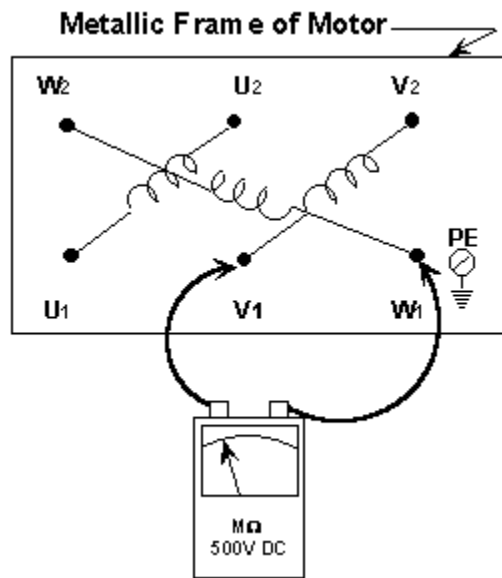

Figure 28
Step3: Insulation Resistance Test between Windings V and W. See Figure 28.